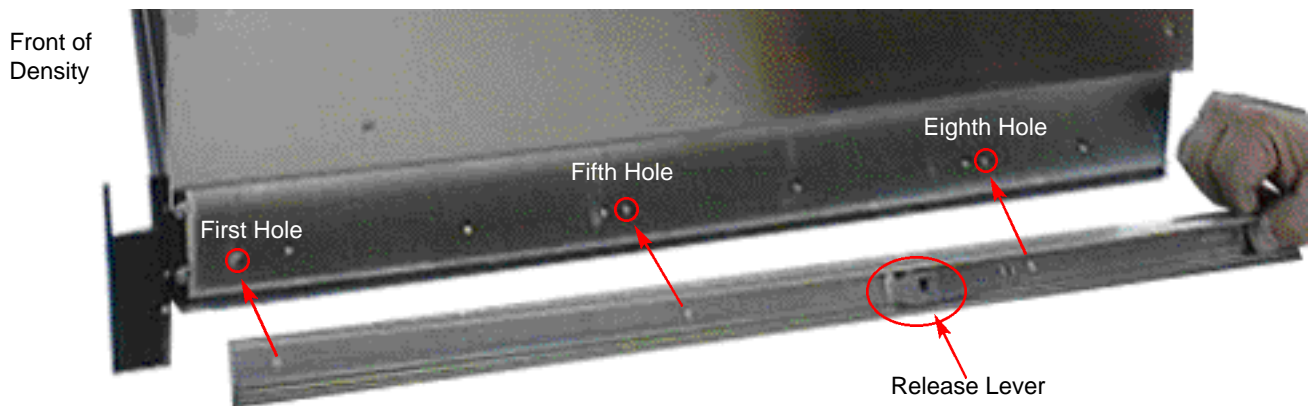

Figure 6 - Inner Slide Placement (Positioning the Inner Slide Rail on the Density 1210 System)
- b. To attach the inner slide to the Density drawer, place the inner slide with the release lever facing out. The protruding end of the release lever will be closest to the front of the Density drawer (see figure 6). Line up the inner slide with the cut-out holes on each side of the Density drawer.
- c. Place three screws (8-32's) into the holes that are designated in Figure 6, for proper fitting of the inner slide to the Density drawer. Tighten the screws.